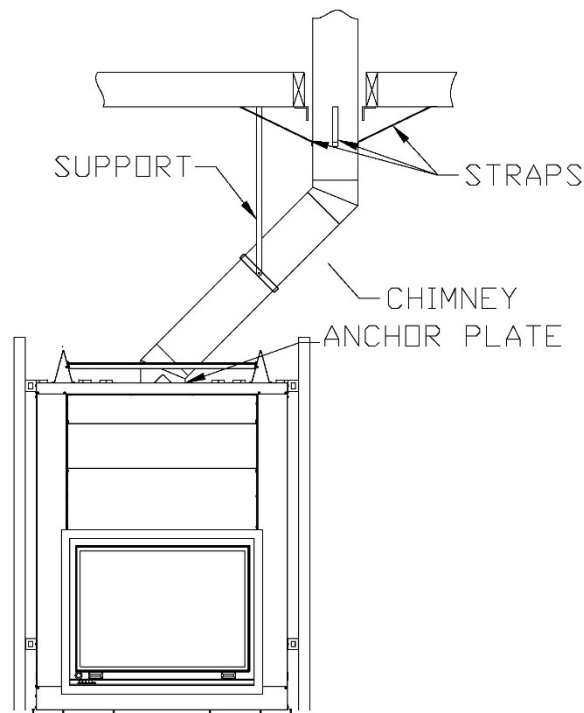

Figure 34
1. Install the first elbow; turn it in the required direction. Secure it to the chimney according to the chimney manufacturer's instructions. In many cases, it is recommended to secure connections with three (3) ½" (12 mm) metal screws.
2. Install the necessary chimney lengths to achieve the required offset. Lock the chimney lengths together according to the chimney manufacturer's instructions. In many cases, it is recommended to use three (3) ½" (12 mm) metal screws. If the offset length is made of two (2) chimney lengths or more, many chimney manufacturers may require that you use an offset or roof support halfway up the offset. If penetrating a wall, install a wall radiation shield supplied by the chimney manufacturer (see **Figures 34 & 35**).